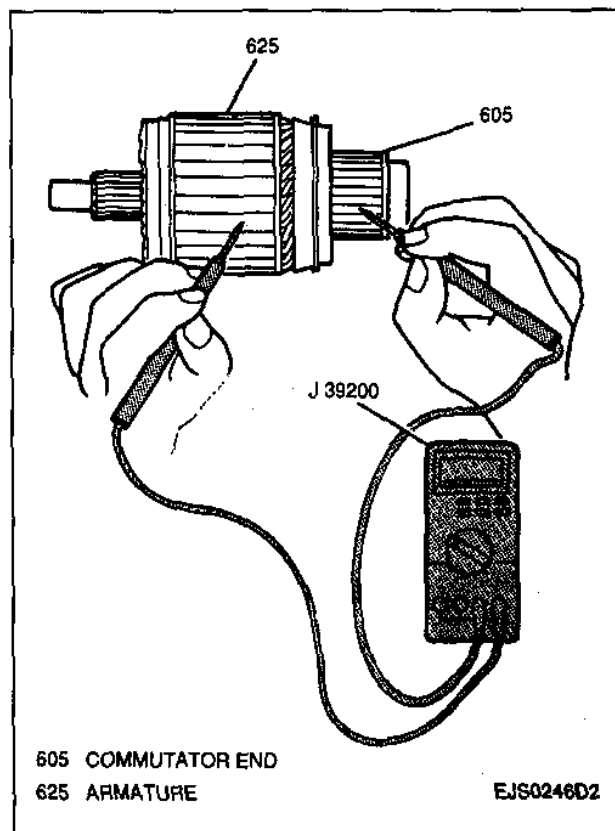

Figure 24—Measuring Armature Core-to-Commutator Resistance
- Resistance between armature core and commutator using a J 39200 (Figure 24). If resistance is 5.0 ohms or less, the armature is grounded and must be replaced.